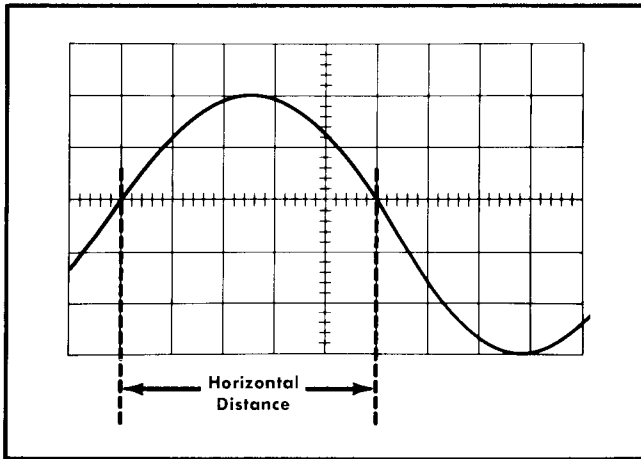

Fig. 2-16. Measuring the time duration between points on a waveform.
5. Set the TIME/DIV switch to the fastest sweep rate that will display less than eight divisions between the time measurement points (see Fig. 2-16). See the topic entitled 'Selecting Sweep Rate' in this section concerning non-linearity of first and last divisions of display.
Example. Assume that the distance between the time measurement points is 5 divisions (see Fig. 2-16) and the TIME/DIV switch is set to .1 mSEC with the magnifier off.
Example. The frequency of the signal shown in Fig. 2-16 which has a time duration of 0.5 milliseconds would be: